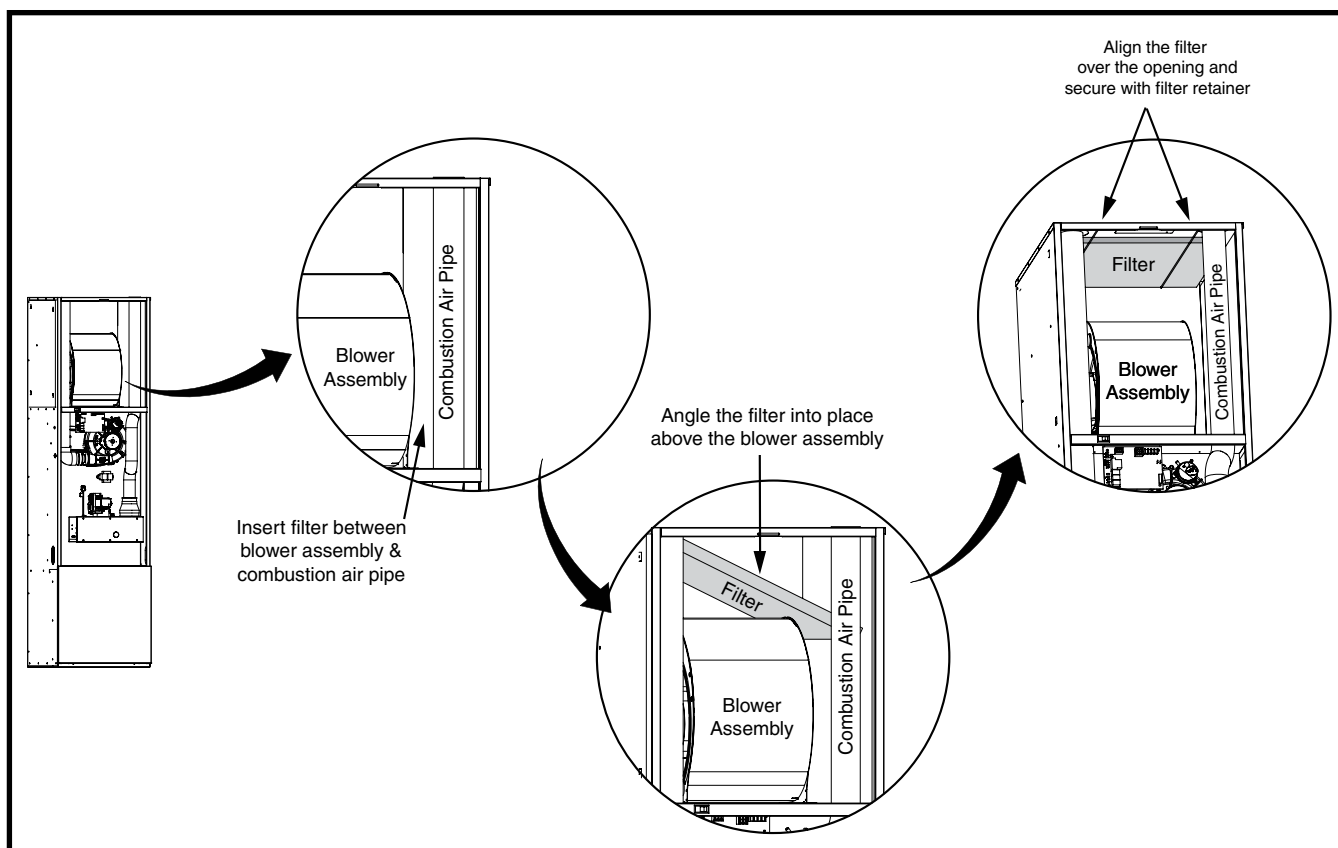

Figure 7. Filter Installation
1. Slide the standard 18"x18"x1" filter (P/N 669779) into the space between the combustion air pipe and the blower assembly. See Figure 7 \(page 13\). **NOTE:** Make sure the airflow arrows on the filter point towards the blower assembly.
4. Evenly align the filter over the opening in the top of the furnace cabinet and position the other end of filter retainer up over the flange in the furnace's top panel. **NOTE:** To properly secure the filter, make sure the filter retainer is properly positioned in the top panel of the furnace. There should be no visible air gaps. The retainer may slide left or right slightly, but must not have any movement between the front and rear. See Figure 7.